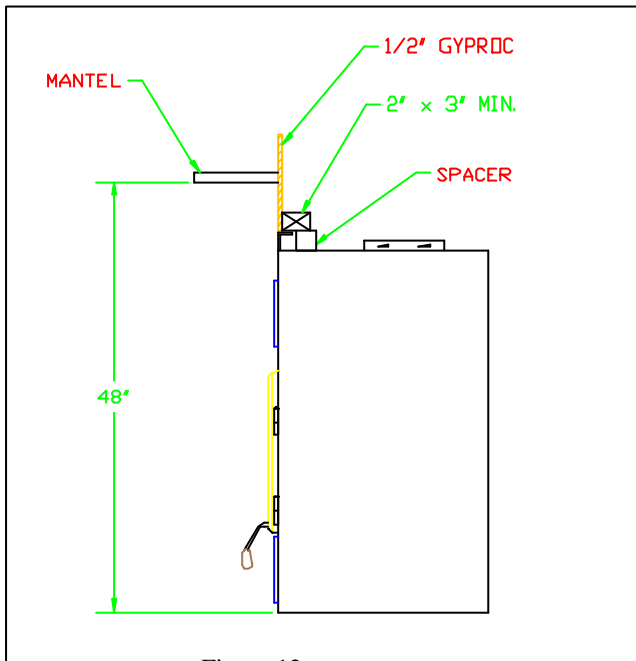

Figure 12
1. Combustible material must be installed flush with the fireplace. It may not project in front of and on the fireplace (i.e. the steel façade of the fireplace) (figure 12).
The mantel must be installed at least 48" (1016 mm) above the base of the fireplace (figure 12).